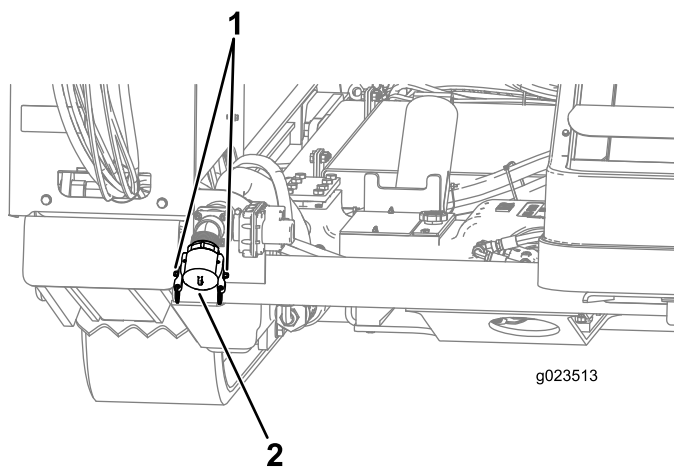

Figure 76
1. Raise the cam-lock levers on the pump-inlet cap, and remove the cap (Figure 76).